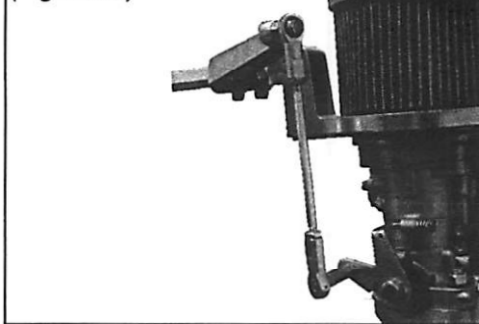

Figure 3
2. Slide the center pull-lever and the left and right extension arms onto the hex bar so there is approximately 60° between the centerline of the arms compared to the center pull lever (See Figure 3). Install retention hardware onto the parts, but DO NOT fully tighten at this time. Install the jam nuts onto the ball-ends and thread the ball-ends into each end of the hex bar.